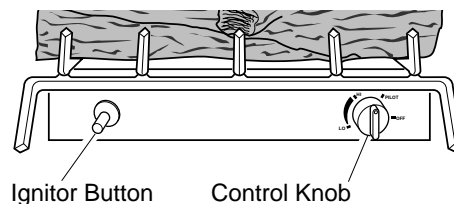

Figure 31 - Control Knob and Ignitor Button Location
4. Wait five (5) minutes to clear out any gas. Then smell for gas, including near the floor. If you smell gas, **STOP!** Follow "B" in the safety information. If you don't smell gas, go to the next step.
5. Slightly depress and turn control knob counterclockwise to the PILOT position. Press in control knob for five (5) seconds (see Figure 31).